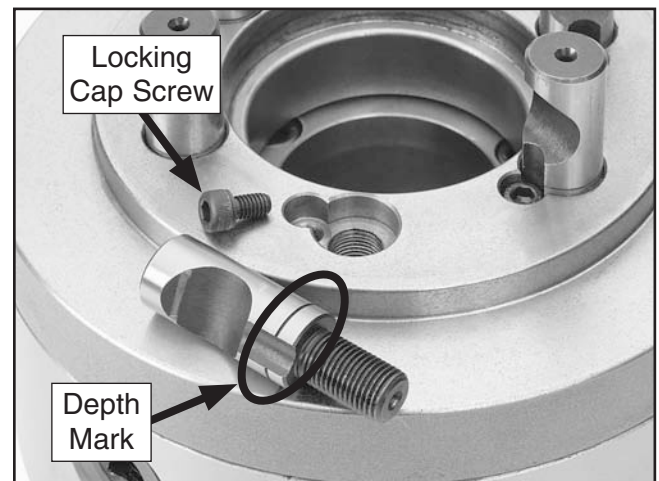
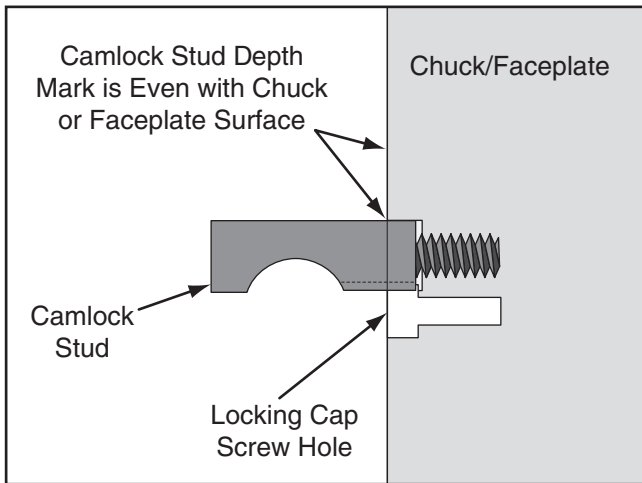

Figure 35. Camlock depth mark and locking cap screw.
Figure 36. Initial position adjustment of the camlock stud.
2. If installed, remove the locking cap screws adjacent to each of the three camlock mounting holes (see **Figure 35** for an example).
- Thread each camlock stud into the chuck or faceplate until the depth mark on the stud (see **Figure 35**) is even with the surface of the chuck or faceplate and the curved indent of the side of the stud faces the locking cap screw hole, as illustrated in **Figure 36**. This is an initial adjustment.